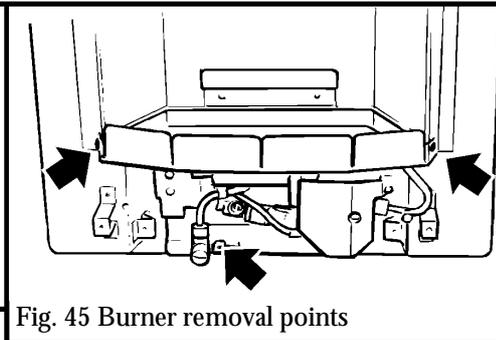

Fig. 45 Burner removal points
13.8 To remove the burner unit (see figure 45)